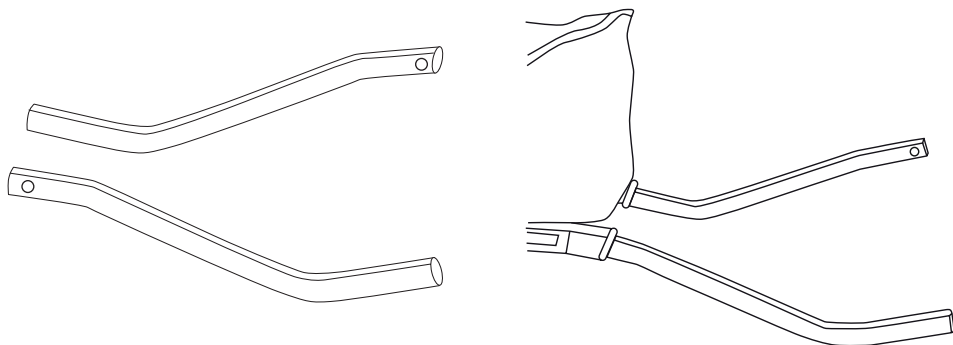

Fig. 11
- a) manici 871.50 HANDLES e 871.51 GRIPS (figure 11 e 12),